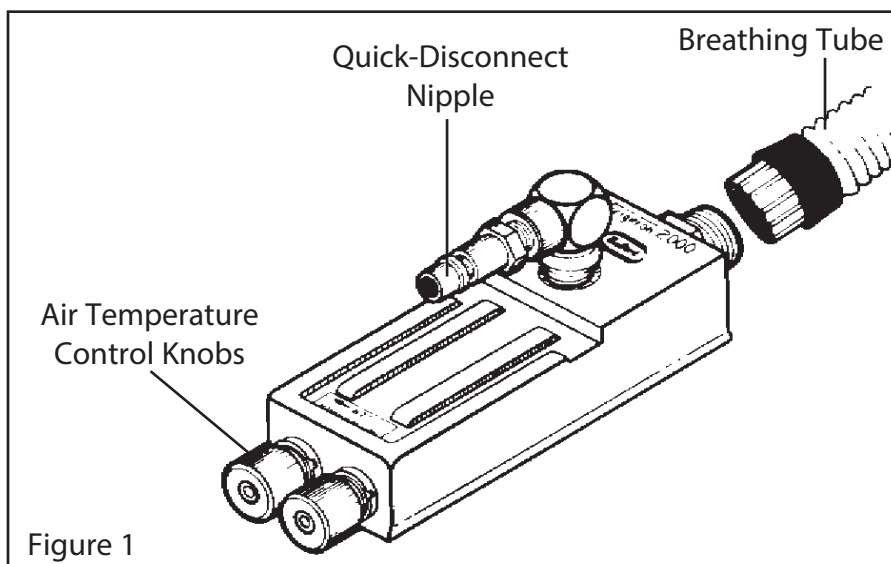

Figure 1
The vest should mount over the belt with the Dual-Cool unit positioned in the "V" of the vest found on the right-hand side (Figure 1).
6. To obtain cooler air, turn either or both of the air temperature control knobs counter clockwise (Figure 1).